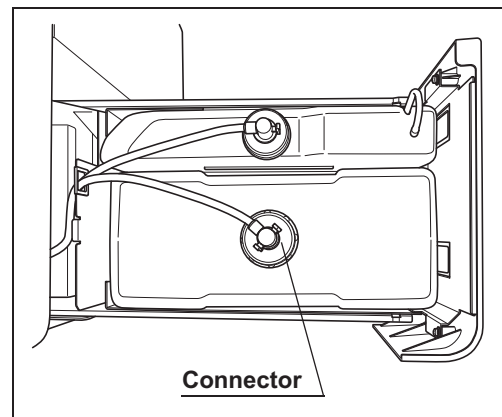

Figure 4.133
- 11** Turn the connector to correct the tube orientation as show in Figure 4.133. Confirm that the tube is not bent.